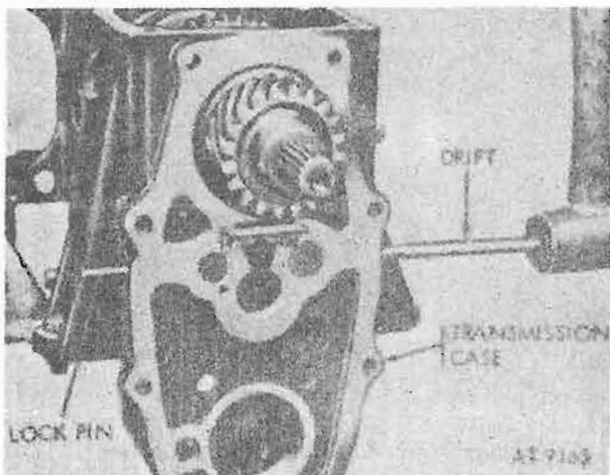

Figure 8-32. Countershaft lock pin.
e. Using small diameter long shank drift, drive out lock pin securing countershaft in transmission case (fig. 8-32).